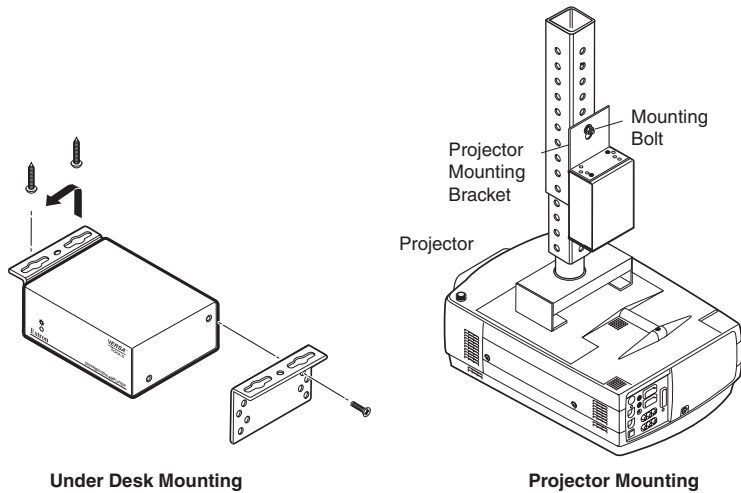

**Figure 4 — Typical back of the rack installations**
5. Mount the unit to the rack using the two included rack screws (figure 4). The MDA can be vertically mounted facing in either direction.